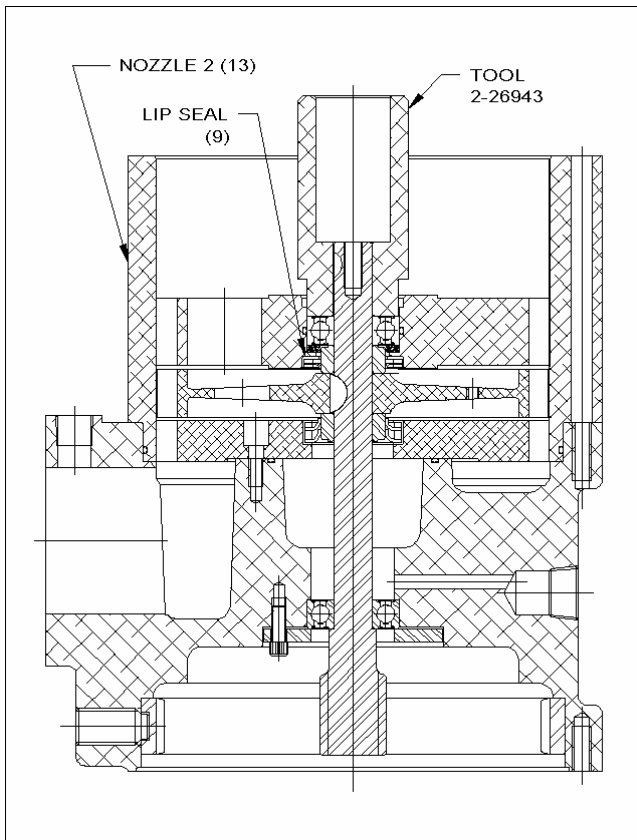

Figure 21. Pressing Aft Bearing onto Shaft
Support the sun gear end of the shaft. Press the aft bearing (10) onto the shaft by pressing onto the inner and outer race simultaneously. Use press tool per Figure 21. Press until bearing is seated.